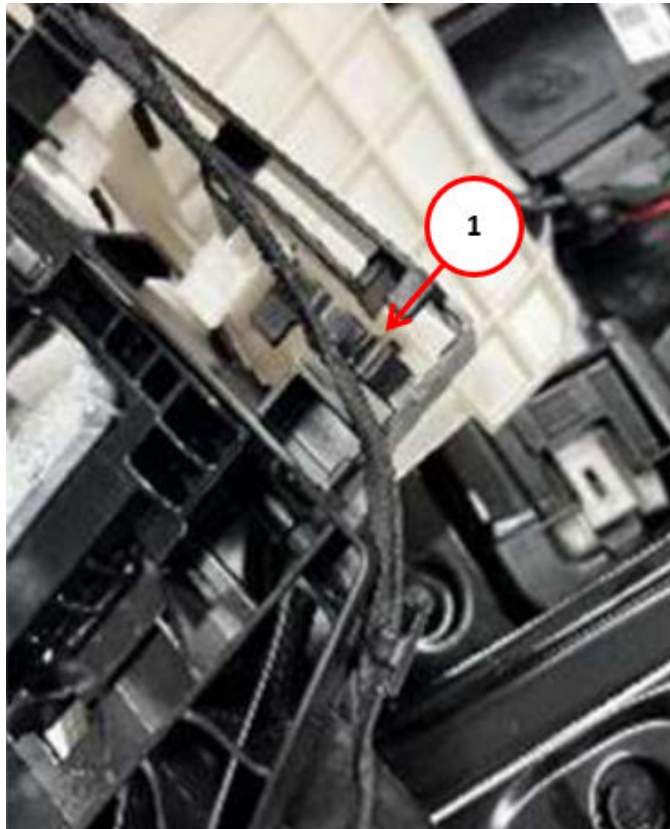

Fig. 5
7. Release the wire harness from its retention tabs Fig. 5.